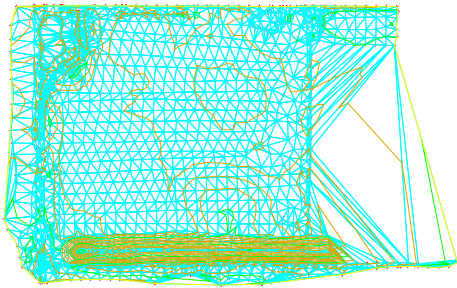

Figure 3-63 The TIN surface with the surface points
6. Choose the **OK** button to close the **Surface Properties - EG Surface** dialog box. Figures 3-63 and 3-64 show the TIN surface with the surface points and the point style selected, respectively. Note that the surface points are represented by the symbol that was selected for the point display in the surface style.